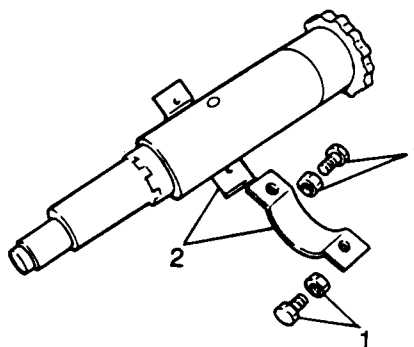

Fig H1.102
(1) Refer to Fig H1.102. Remove the oil deflector fixings (1).
(2) Remove the two halves of the oil deflector (2).